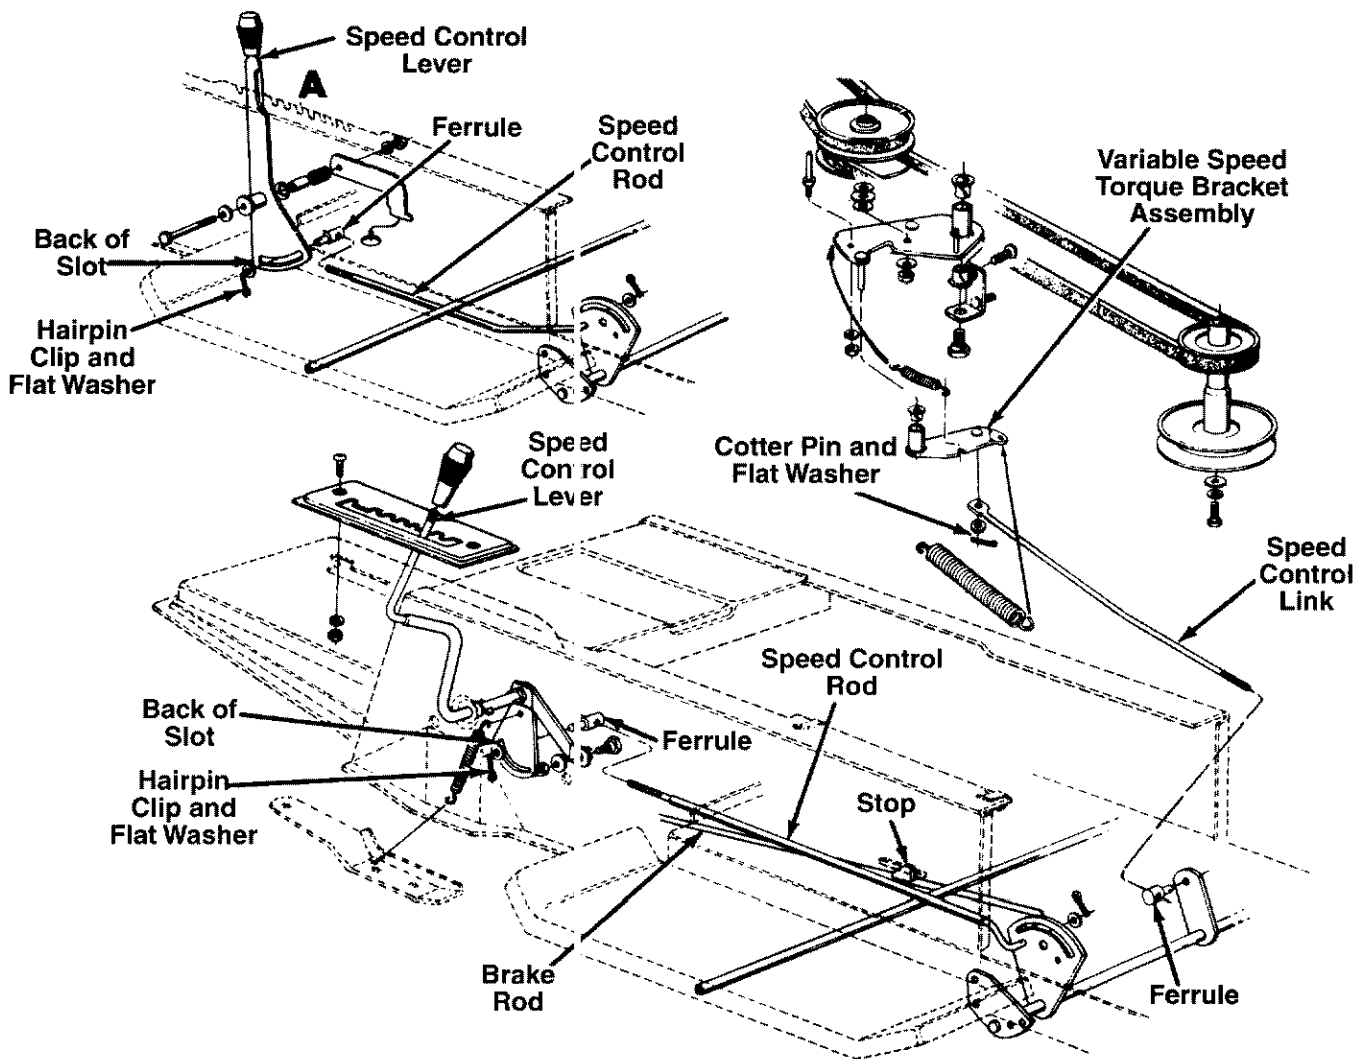
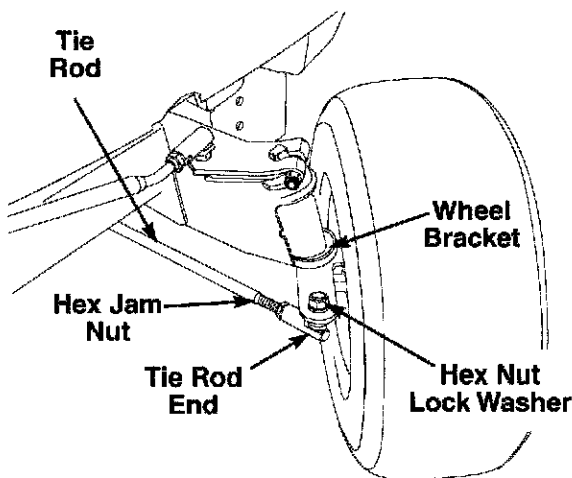

FIGURE 11.
FIGURE 13.—Units with adjustable tie rods
## SPEED CONTROL ADJUSTMENT (See figure 11)
1. Adjust the speed control lever by pushing the clutch-brake pedal forward until the stop on the brake rod is against the frame. See figure 13. Have another person hold the pedal in this position as you make the following adjustment. Place the speed control lever in parking brake position. Remove the hairpin clip and flat washer, and adjust the ferrule on the rod so it is against the back end of the slot. See figure 11. Then lengthen rod one more turn. Reassemble and secure with the flat washer and hairpin clip.
1. Remove the hex nut and lock washer, and drop the tie rod end from the wheel bracket. See figure 13.